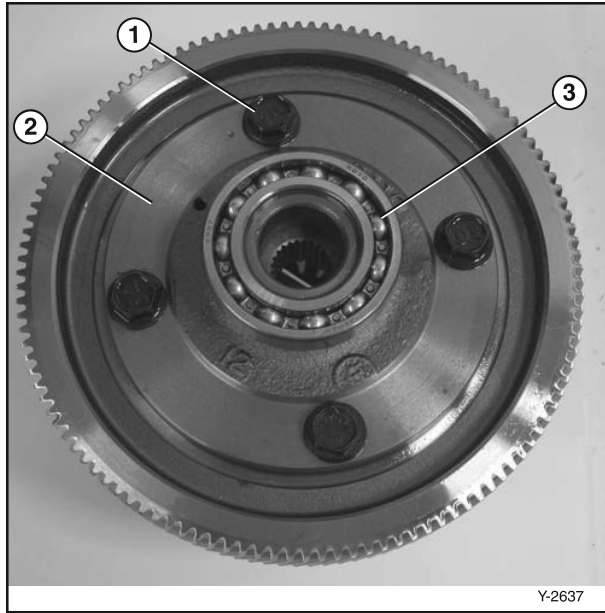

Figure 6-60
9. Install the ring gear (**Figure 6-60, (2)**) to the differential assembly. Tighten bolts (**Figure 6-60, (1)**) to specification.
(Figure 6-60, (3)) shows the bearings as well.